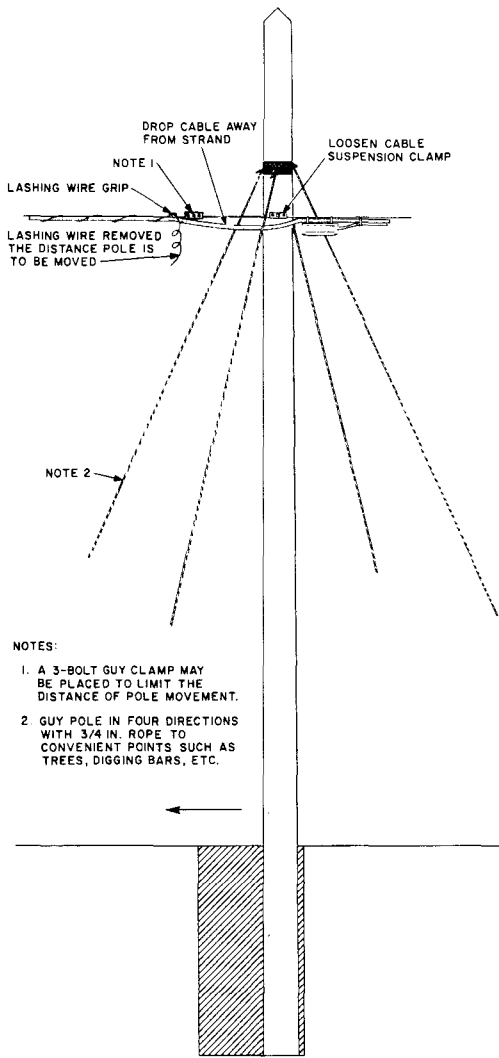

Fig. 9—Trenching Gin Pole
- (2) Dig the trench in the direction the pole is to be shifted (Fig. 9). In soft ground a board placed in the bottom of the trench to be used as a skid will facilitate shifting the butt of the pole.